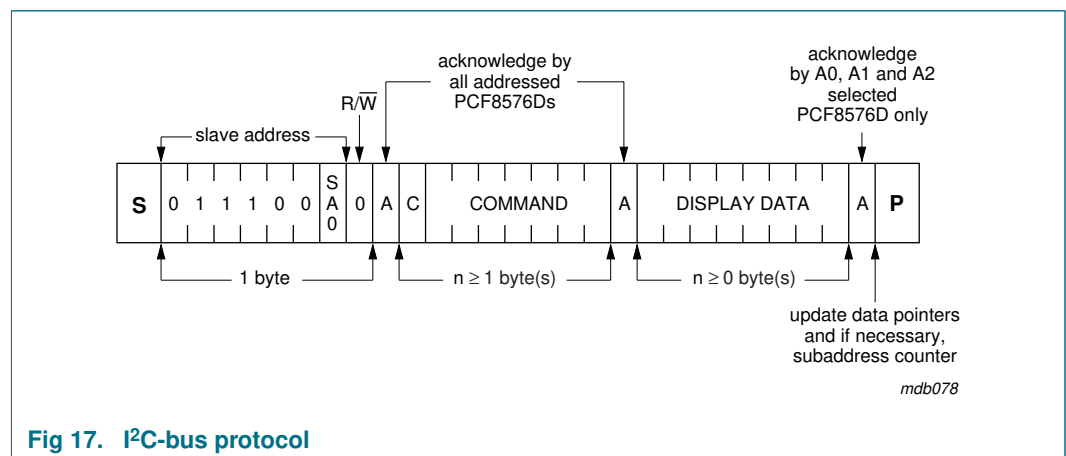

Fig 17. I²C-bus protocol
The I²C-bus protocol is shown in Figure 17. The sequence is initiated with a START condition (S) from the I²C-bus master which is followed by one of two possible PCF8576D slave addresses available. All PCF8576Ds whose SA0 inputs correspond to bit 0 of the slave address respond by asserting an acknowledge in parallel. This I²C-bus transfer is ignored by all PCF8576Ds whose SA0 inputs are set to the alternative level.